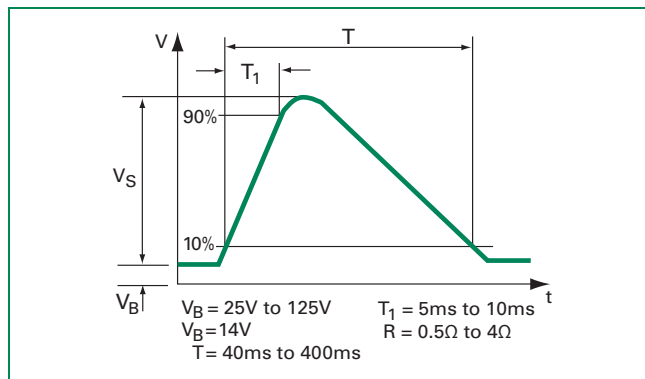

Figure 3. Automotive Load Dump
Figure 3, shows a transient which is the result of stored energy within the alternator of an automobile charging system. A similar transient can also be caused by other DC motors in a vehicle. For example, DC motors power amenities such as power locks, seats and windows. These various applications of a DC motor can produce transients that are just as harmful to the sensitive electronic components as transients created in the external environment.
The bulk of the varistor between contacts is comprised of ZnO grains of an average size "d" as shown in the schematic model of Figure 3. Resistivity of the ZnO is <0.3 Ω-cm.
**FIGURE 3. SCHEMATIC DEPICTION OF THE MICROSTRUCTURE OF A METAL-OXIDE VARISTOR, GRAINS OF CONDUCTING ZnO (AVERAGE SIZE d) ARE SEPARATED BY INTERGRANULAR BOUNDARIES.**